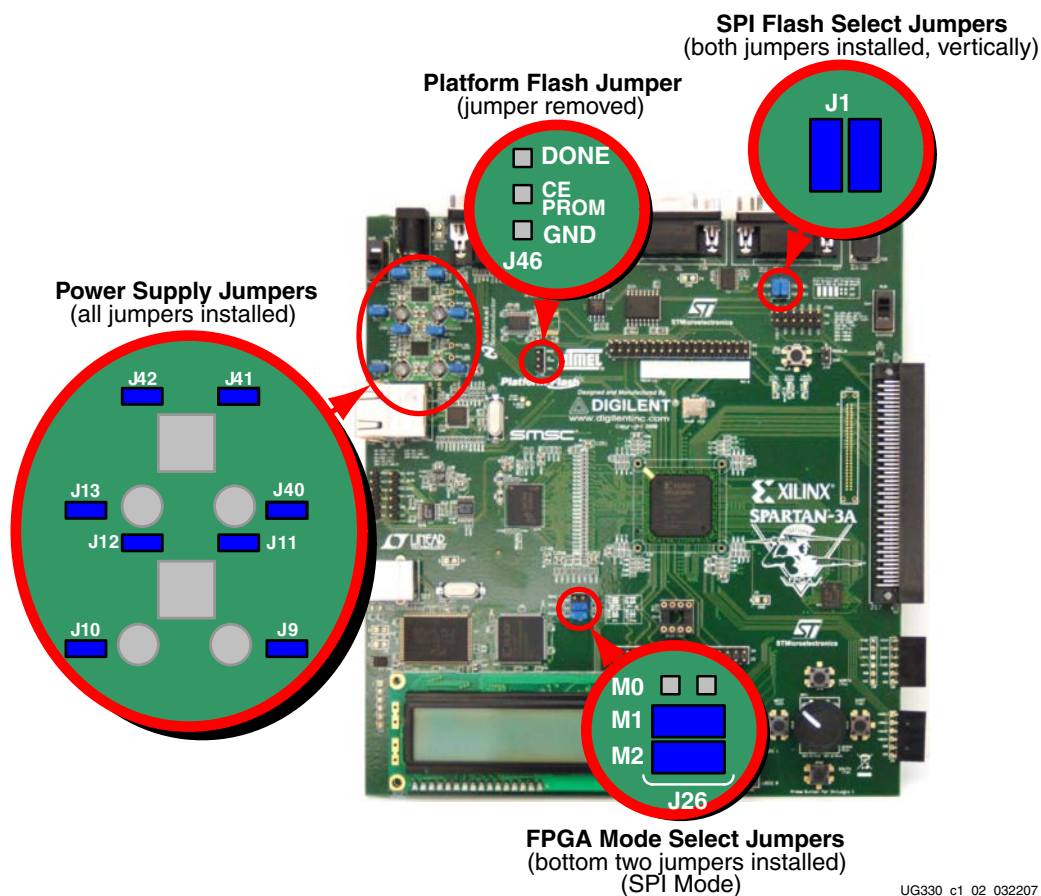

Figure 1-2: Default Jumper Settings for Spartan-3A Starter Kit Board
1. Double-check the position of the board jumpers, as shown in Figure 1-2, page 14. These settings are required for the demonstration design to configure correctly.